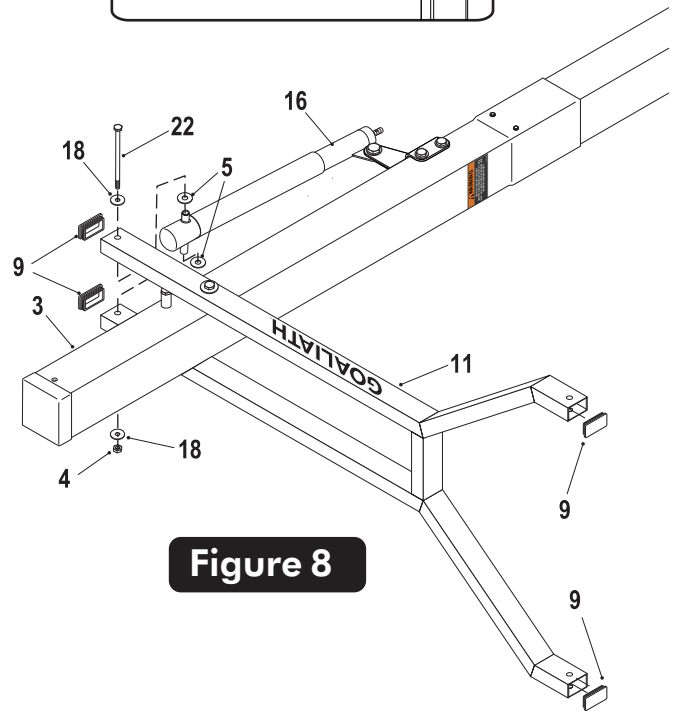

Figure 8
10. Secure Actuator (#16) to Lower Arms (#11) using one bolt (#22), two flat washers (#18), two plastic washers (#5) and one lock nut (#4). See **Figure 8**. Tighten both bolts (#22) **snug but, do not over tighten. Board Arms must pivot freely.**